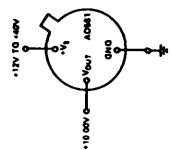

Figure 1. AD581 Pin Configuration (Top View)
2. See Figure 1 for package outline information.